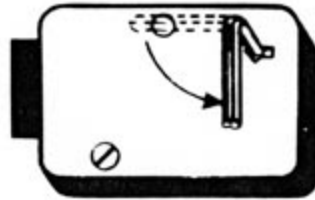

Figure 3.
3. Turn key one quarter turn to the **LEFT** (see Figure 3). With the changing key in this position, turn the dial to the **LEFT**, stopping when the first number of the newly selected combination aligns with the changing index the **FOURTH** time.